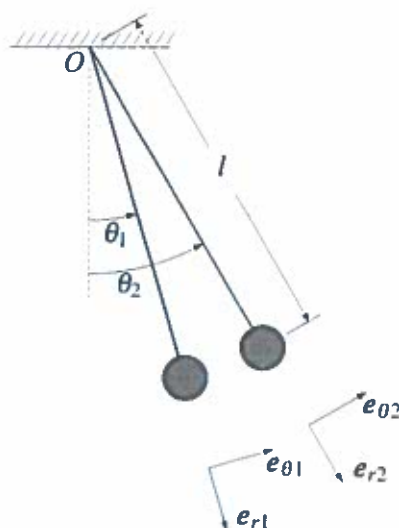

Figure 1.1 Pendulum system.
1. A pendulum system consists of two separate pendulums, each with a mass m suspended from a massless rod of length l , as shown in Figure 1.1. The masses m are free to swing in a vertical plane by an angle θ_1 and θ_2 respectively, under the influence of gravity and a torsional spring (not shown in Figure 1.1) connected between the two pendulums. The torsional spring exerts a moment between the two pendulums, about an axis perpendicular to the page, given by the torsional stiffness k times the angle between the two pendulums.